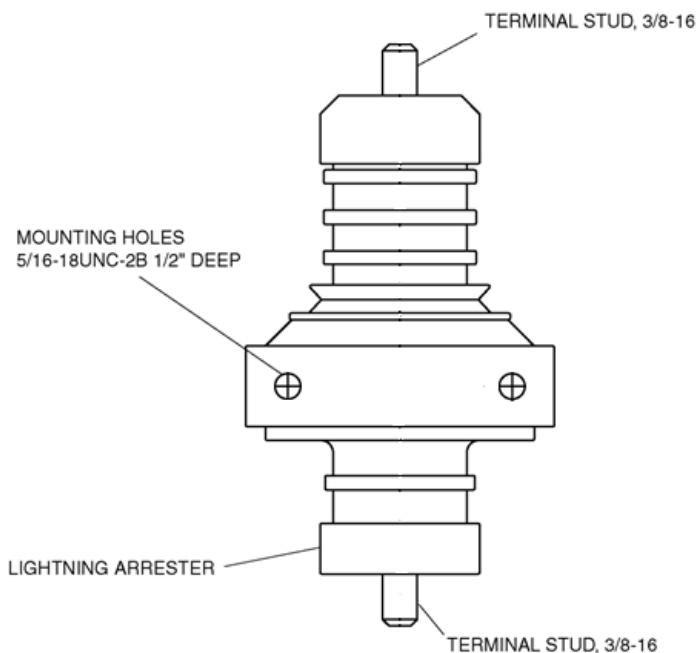

Figure 5-4: Lightning Arrestor
2. Remove the electrical connections from the terminal studs shown in Figure 5-4.